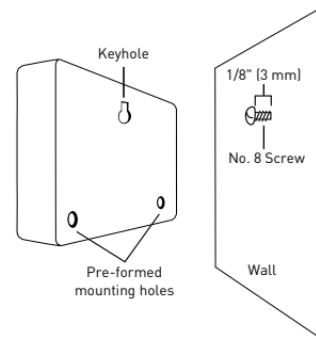

Figure 2: Hang timer on screw using keyhole
- Slip the timer over protruding screw (using keyhole slot in back of timer). See *figure 2*
- Drive a No. 8 screw through one of the two pre-formed holes located in lower corners of the cabinet. See *figure 2*